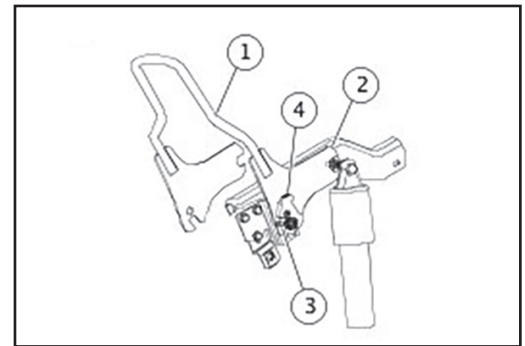
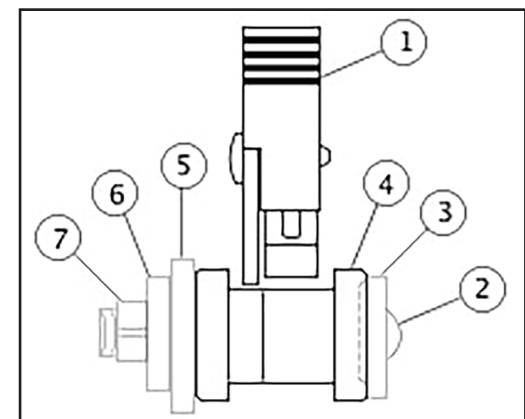

Figure 5. Installed Backrest and Hardware
Figure 6. Rear Docking Point Latch Alignment
3. See Figure 5 and Figure 6. Position the latches over the rear docking points. Check to be sure the latches fit into the neck of
5. See Figure 5. To remove side plates, press the release button on each side and pull the latch levers back. Carefully lift the rear of the side plates up and pull the side plates out of the front docking points.